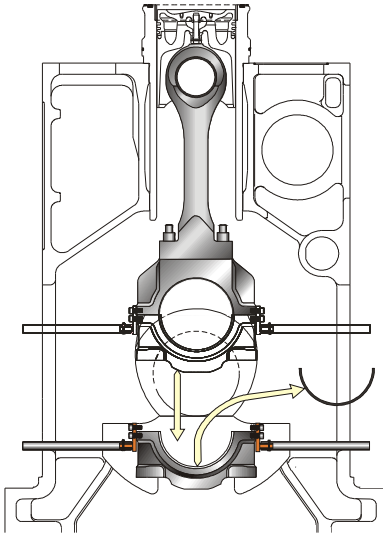

Fig. 3 Extracting of lower bearing
5. Slow down big end lower housing as shown in fig. 3.